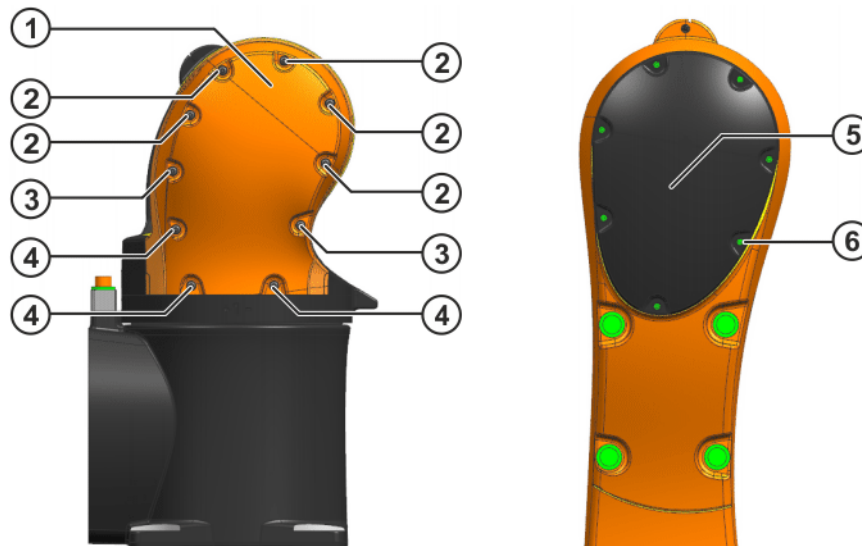

Fig. 9-2: Removing covers A2 and A3
1. Remove the following round head screws from cover A2 and take off cover A2 (>>> Fig. 9-2):